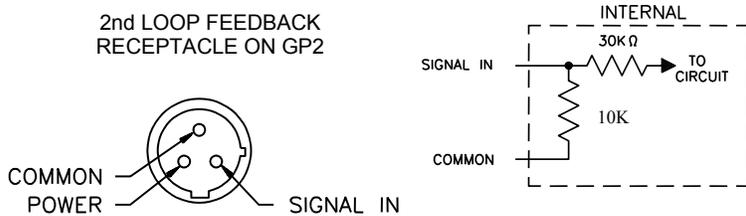

Figure 4
3. See figure 4 and 5 for second loop connections.
2. If Proportion-Air DS series transducer is used as the external feedback source, attach it to the auxiliary receptacle on the GP2 unit. (Figure 4)